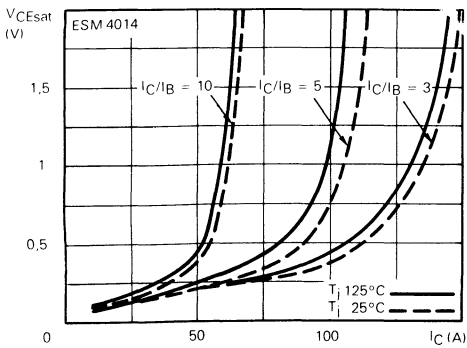

Fig.3 : Saturation voltage.
**TURN-OFF SWITCHING CHARACTERISTICS - CARACTÉRISTIQUES DE COMMUTATION A L'OUVERTURE (Fig. 3)**